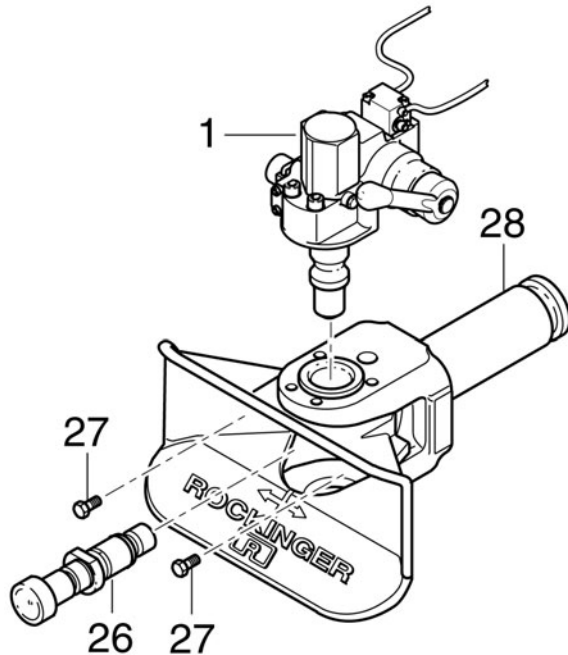

Fig. 7
9. Replacement of the pressure bar (see fig. 7)